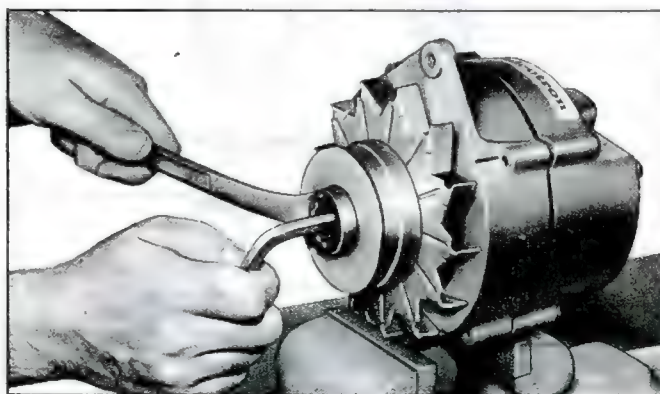

Fig. 14c—Pulley Removal
1. Place 15/16" box wrench on retaining nut and insert a 5/16" allen wrench into shaft to hold shaft while removing nut (fig. 14c).